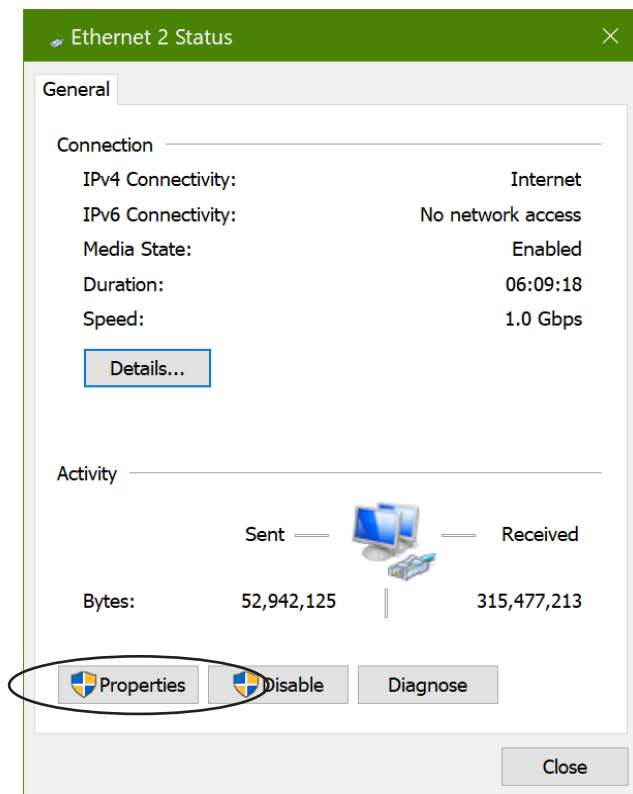

FIGURE 5
4. In the opened Properties window, highlight **Internet Protocol Version 4 (TCP/IPv4)** and click the **Properties** button (see Figure 5).